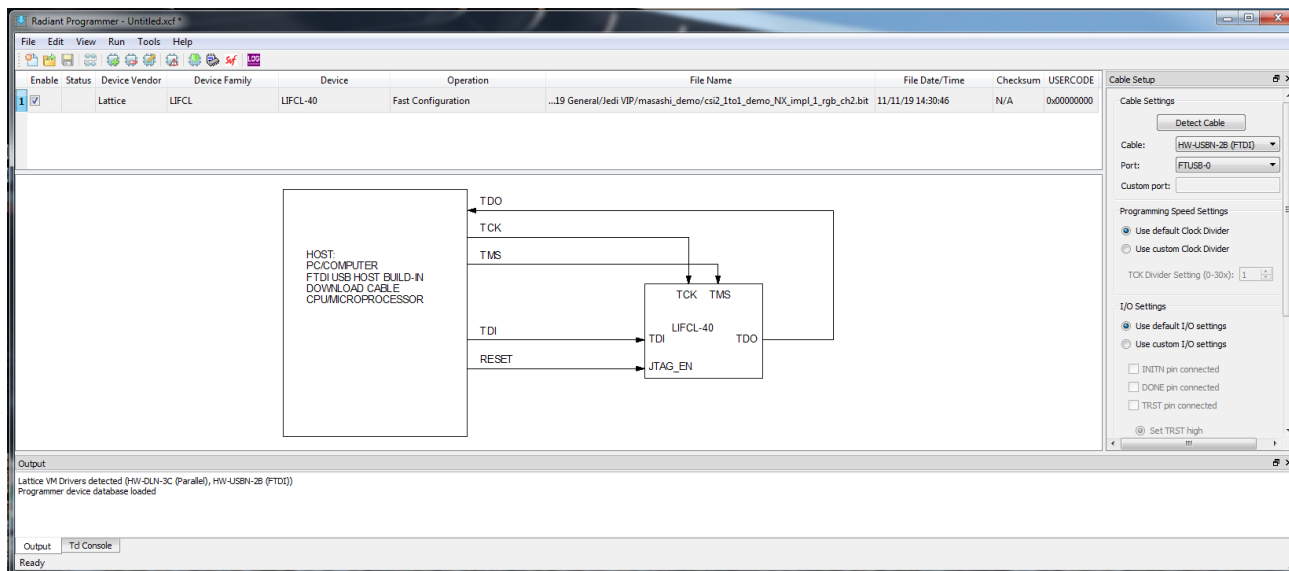

Figure 3.3. Entering File Name
- After the board is successfully scanned, the main interface opens as shown in Figure 3.3. Enter the file name.